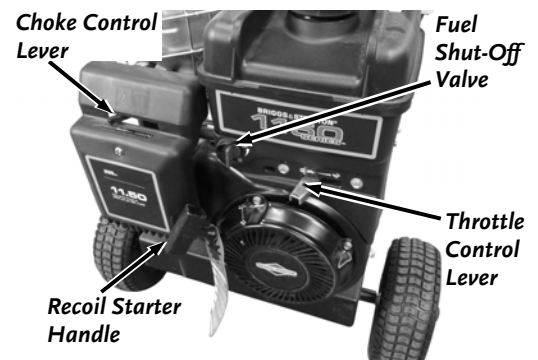

Figure 8
3. Rotate the Fuel Shut-Off Valve counter clockwise to its OPEN position (**Figure 8**).